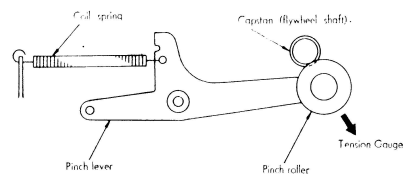

Fig. 5
- e) When sound reproduction is uneven or erasing is insufficient, the pressure of pad must be adjusted with coil spring. Adequate pressure is 20-25 gr. (Fig. 5)